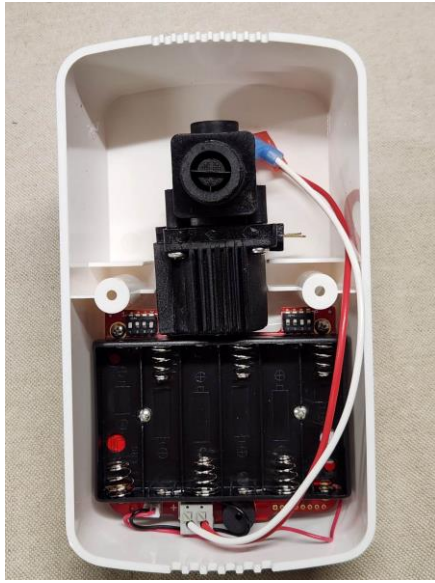

Fig 2
- Slip the box over the solenoid valve. Ensure that the wiring is not obstructed within the box. The wires must pass between the valve and the wall, behind the coil. (See view from behind - Fig 2) The solenoid valve will locate the box vertically. Check that the box touches flat against the wall, on all sides.